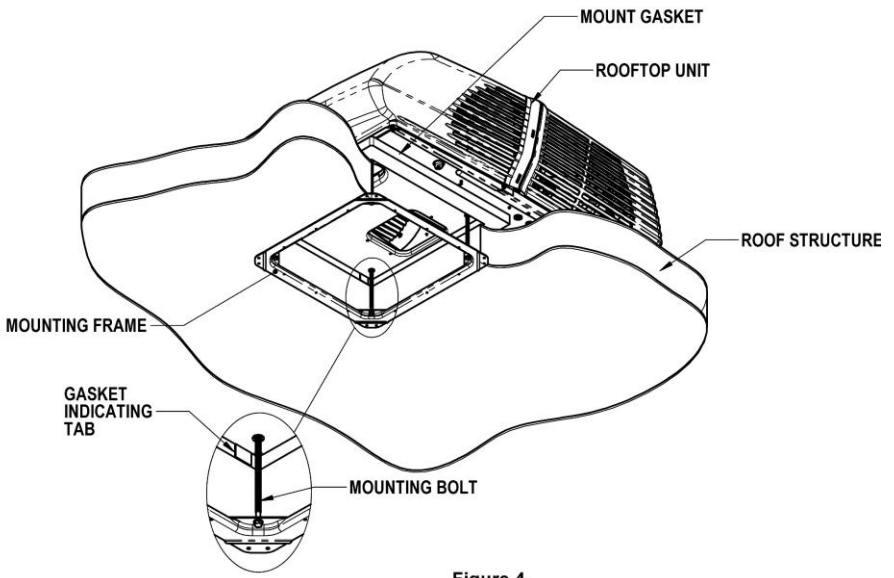

Figure 4
A mounting frame is supplied with the ceiling assembly. Follow the steps below to secure the Air Conditioner to the roof. Refer to Figure 4.
- Proper tension has been achieved for each bolt when any portion of each gasket indicating tab has been pulled down even with the roof (See Figure 4). The upper unit has now been properly installed with optimum gasket compression.